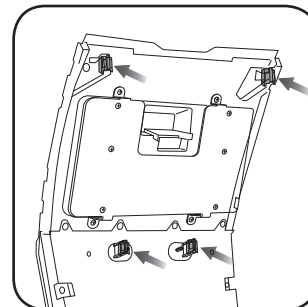

Fig. 3.7
7. Install the four metal clips and rubber stops on to the back of the bezel. (Fig. 3.7)